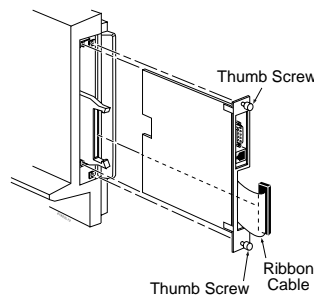

FIGURE 8
2. Close CEU ejector tabs and insert the AUX into the CEU upper and lower rails. *Push the module in until it clears the CEU ejector tabs.* See Figure 8.
5. Push ribbon cable connector until firmly seated. The CEU ejector tabs close. Tighten module screws (2).